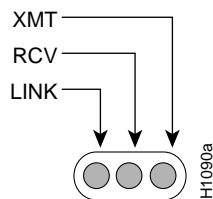

Figure 16 10BaseT Applique Status Indicator LEDs
The three green LEDs on the 10BaseT applique, shown in Figure 16, indicate the following:
Step 7 Check the LINK LEDs on any installed 10BaseT appliques. Ensure that each LINK led is on. (See Figure 16.) If it is off, check the following: